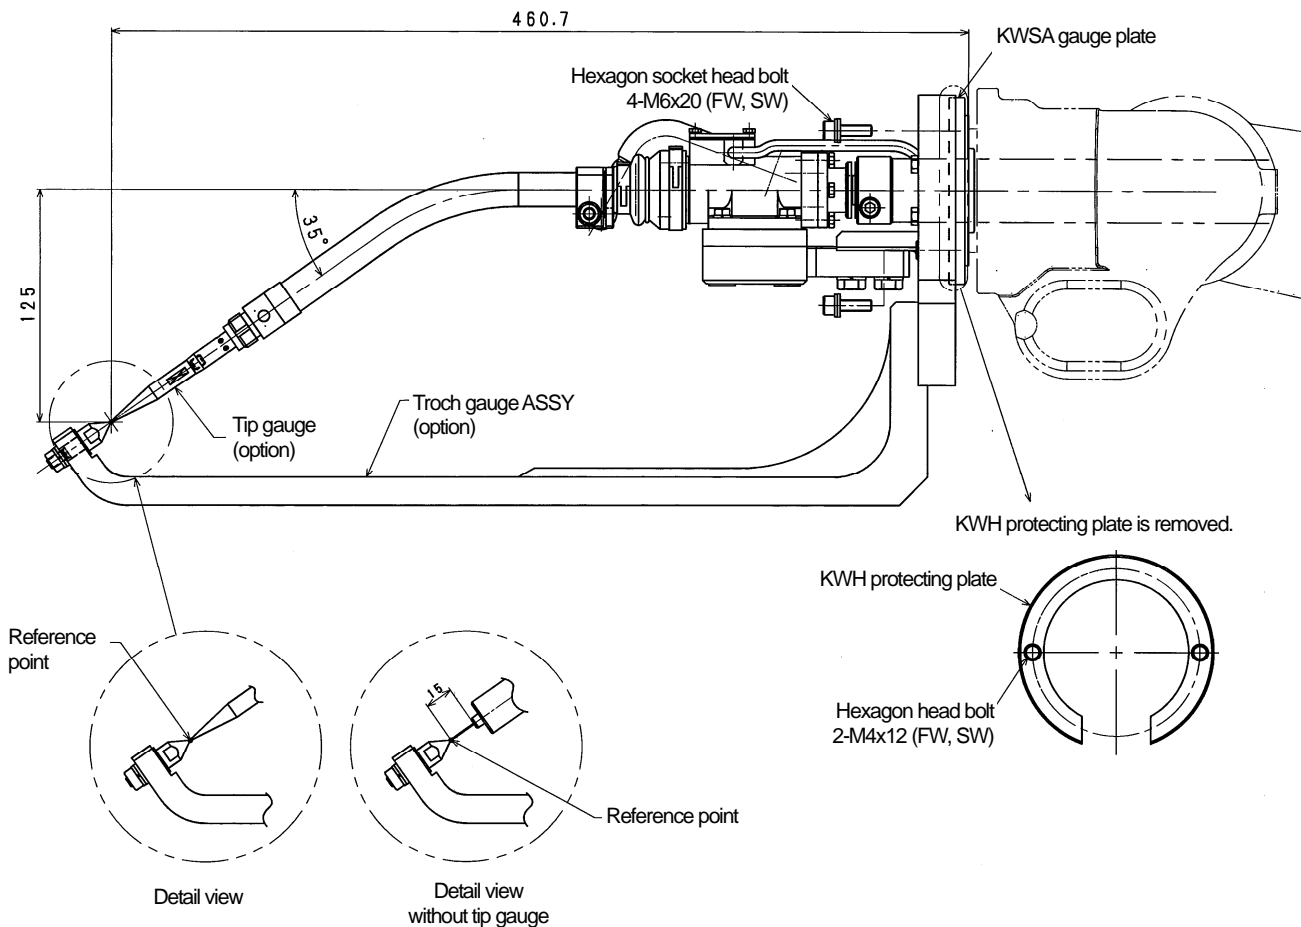

Figure 2.8 Mounting of torch gauge manufactured by TOKIN (G-type) (option)
3. Referring to Figure 2.8, loosen two hexagon head bolts (M4×12) attached on the KWSA plate, and remove the KWH protecting plate.
4. Referring to Figure 2.8, mount the torch gauge ASSY (option) using four hexagon head bolts (M6×20) to the KWSA gauge plate.